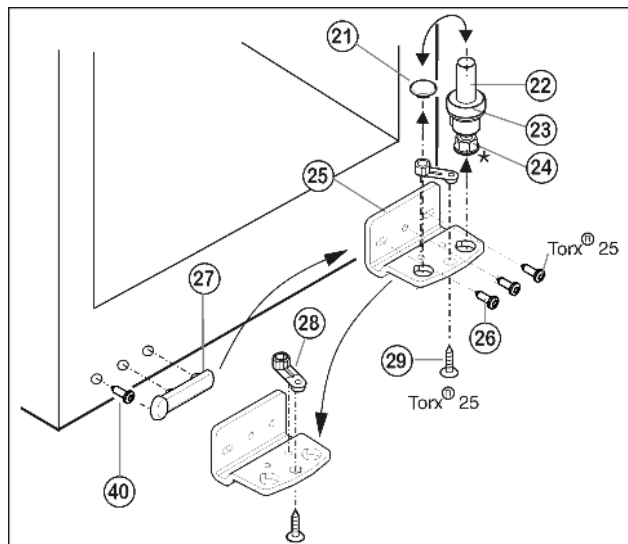

Fig. 5
- ▶ Lift out the bearing pin Fig. 5 (22) together with washer Fig. 5 (23) and adjustable-height foot* Fig. 5 (24).
- ▶ Lift off the stopper Fig. 5 (21).
- ▶ Unscrew Fig. 5 (26) the turn hinge Fig. 5 (25).
- ▶ Unscrew Fig. 5 (29) the bearing element Fig. 5 (28) , transfer it to the opposite location hole of the turn hinge and screw it firmly into place.
- ▶ Carefully lift off the cover on the handle side Fig. 5 (27), undo the screw () and transfer both to the opposite side.
- ▶ Screw the turn hinge Fig. 5 (25) firmly into place on the new hinge side, possibly using a cordless screwdriver (**with 4 Nm**).
- ▶ Re-insert the stopper Fig. 5 (21) into the other hole.
- ▶ Re-insert the bearing pin Fig. 5 (22) together with the washer and adjustable-height foot*. In so doing, pay attention that the locating lug points backwards
- ▶ Place the door from above onto the lower bearing pin Fig. 5 (22).
- ▶ Align the door to the appliance housing by way of the two oblong holes in the bottom turn hinge Fig. 5 (25). To do so, unscrew the middle screw.